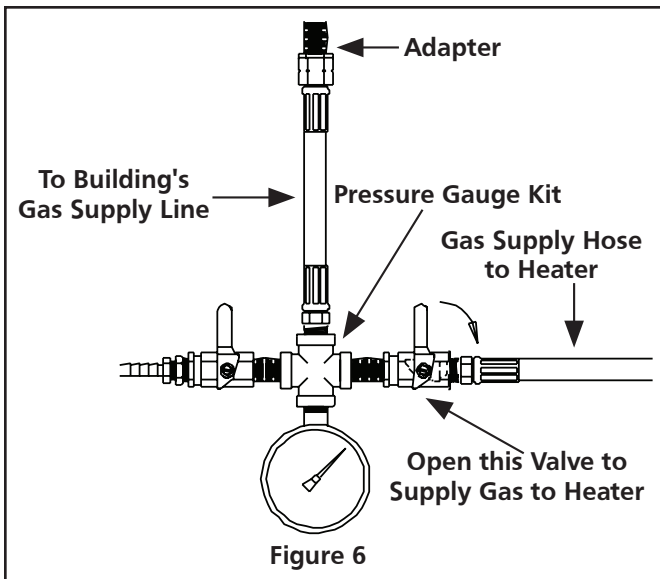

Figure 6
1. Open the fuel supply valve to all heaters in the zone, and the fuel supply valve on the test kit as shown in Figure 6.